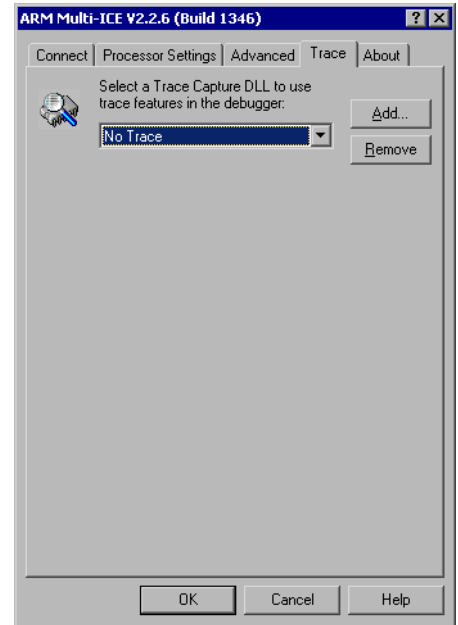

Figure B-7 Multi-ICE configuration dialog box showing the Trace tab
11. Click the **Trace** tab to make it visible (Figure B-7 on page B-9).